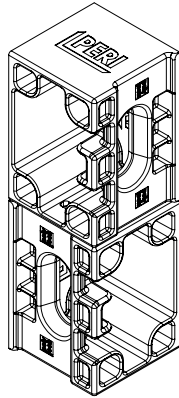

Fig. B5.09a
- internal corners (Fig. B5.09a)